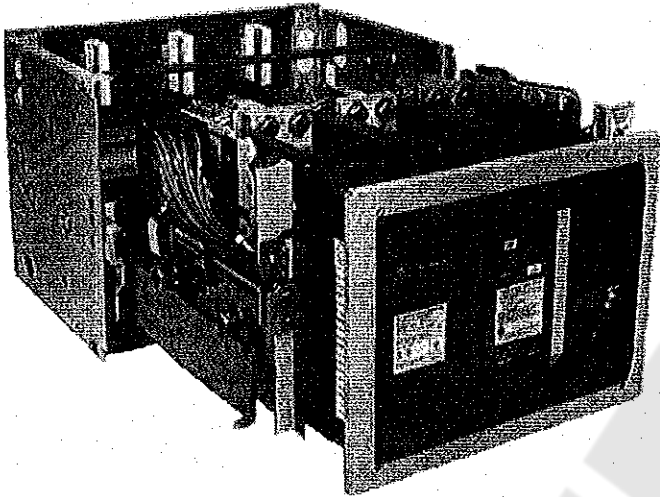

Figure 6. Device installed on rails, ready to be pushed into the substructure.
3. Make sure the grooves in all rollers straddle the rails, as illustrated in Figure 6, then remove the Lifting Bar and push the device into the substructure until it stops in the DISCONNECTED position. Then lift the rails and push them in to the stored position.
3. From the DISCONNECTED position, pull the device out on the rails until the front rollers fall into the detent, as illustrated in Figure 6.